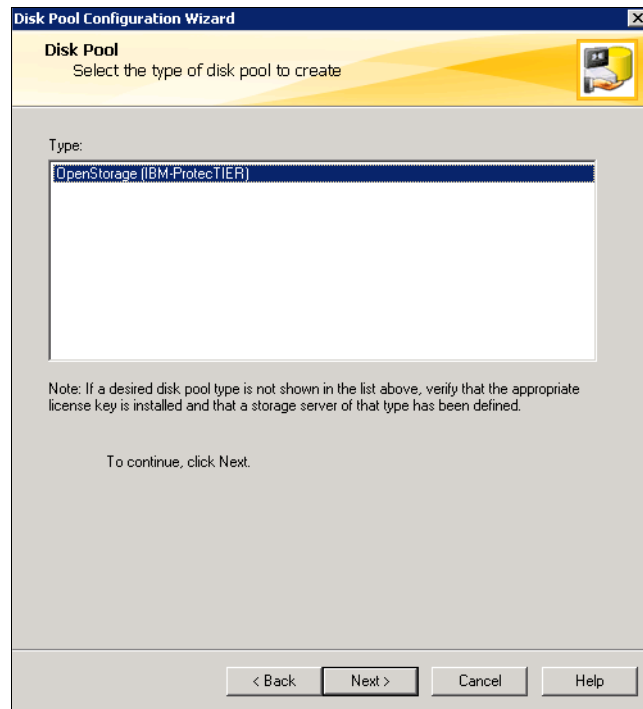

Figure 9-24 Select the storage type (select vendor)
1. Click the **Configure disk pool** icon from main window to open the window shown in Figure 9-24. Choose **IBM-ProtectTIER** and click **Next**.